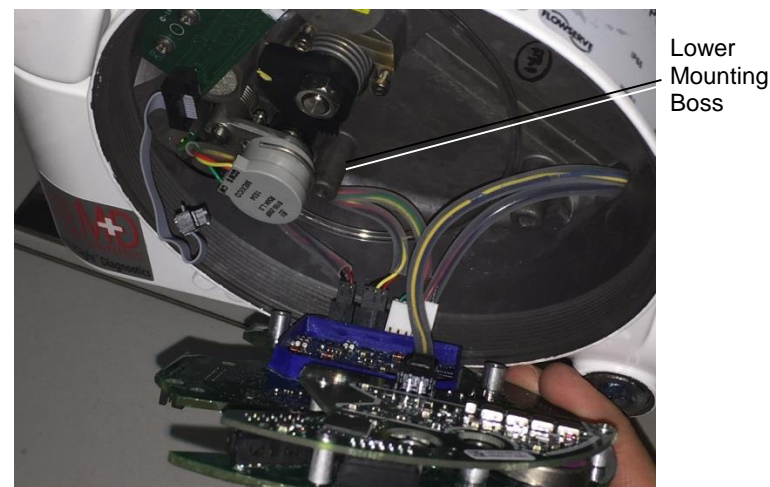

Figure 33: Cable Placement
- 3 Place the main board back into the housing. Make sure Piezo Cable, Hall Sensor Cable, Feedback Pot and Pressure Sensor cable are placed below the lower mounting boss as shown in Figure 33.